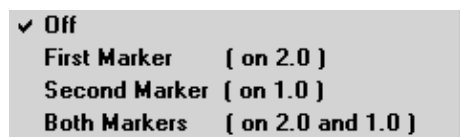
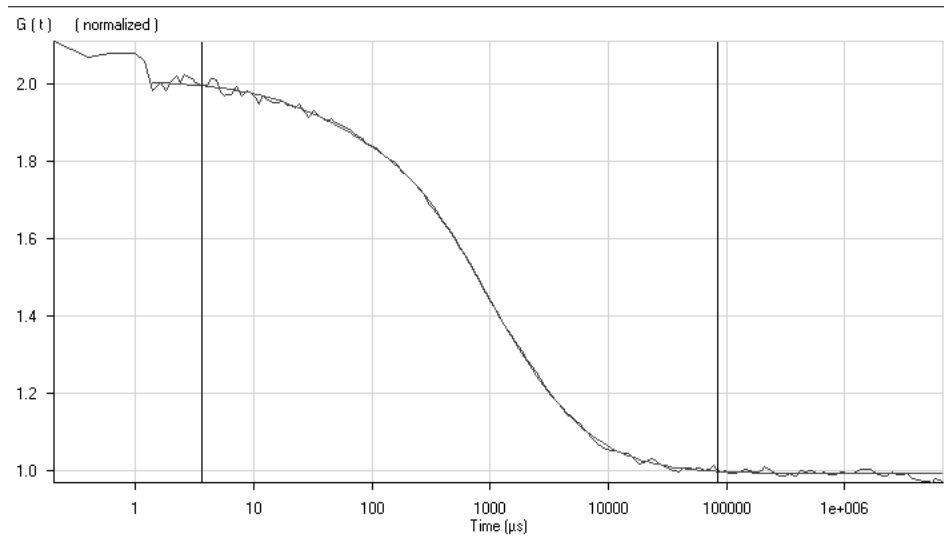

Fig. 3-110 Subcontext menu of the Normalized view
Fig. 3-112 The Correlation Curve window in normalized display
- Select **Normalized view** to display the correlation curves in a normalized form. Two bars define the positions of the curve that will be normalized to 1 and 2, respectively (see Fig. 3-112). You have the option to normalize to 2 and 1 separately, or to normalize to both **Options** are given in the subcontext menu (see Fig. 3-110). In this case the left bar defines the position where the curve is normalized to 2, whereas the right bar specifies the position at which the curve is normalized to 1.